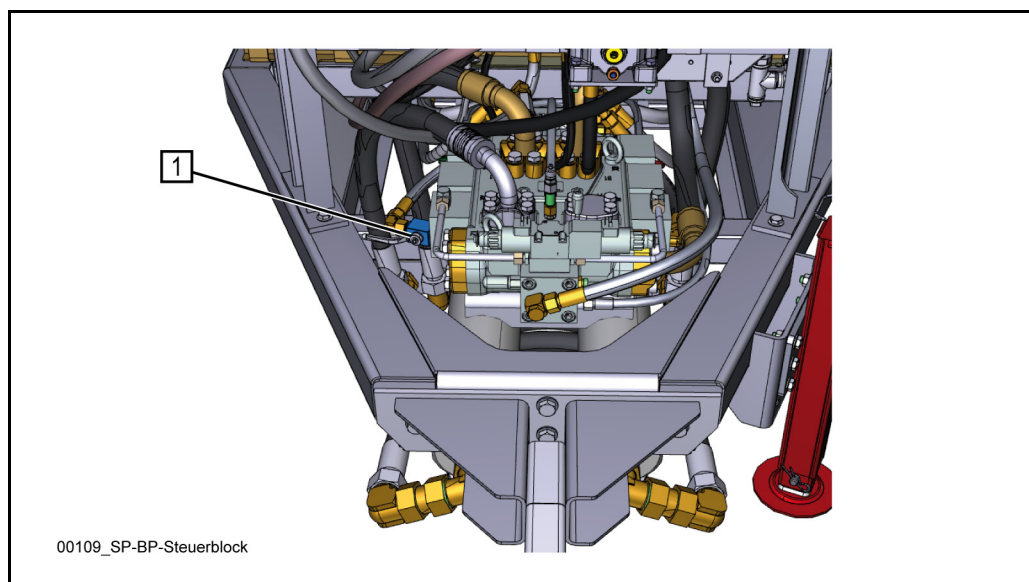
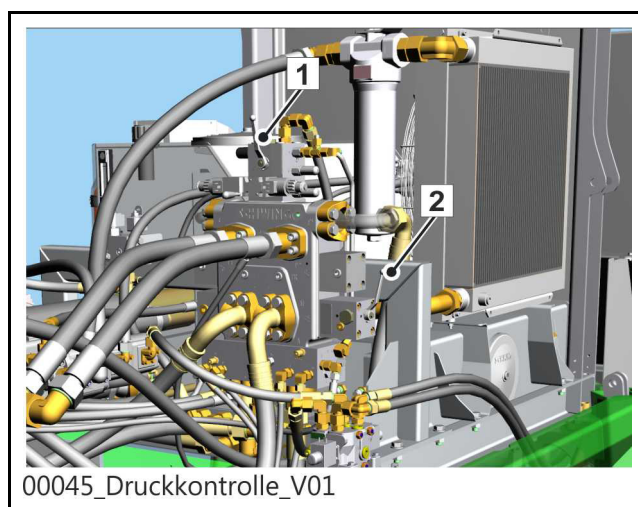
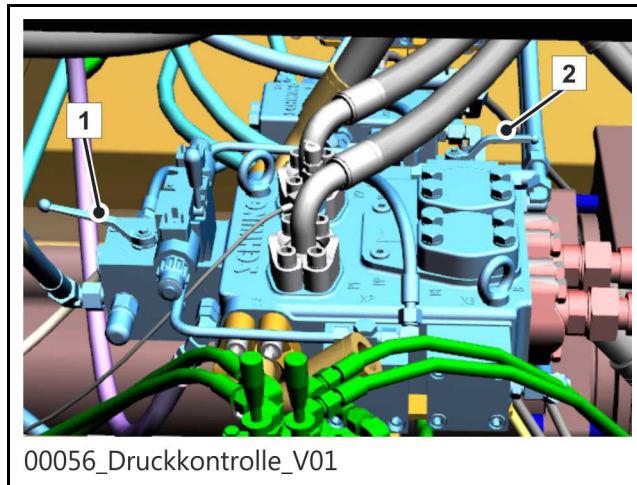

Fig. 155 SP 1800
Fig. 156 SP 3800, 7000, 7500
Fig. 157 SP 9000, SP 9500
- Close the ball valves (1) (**Fig. 155**) or (1 and 2) (**Fig. 156**) or (**Fig. 157**).